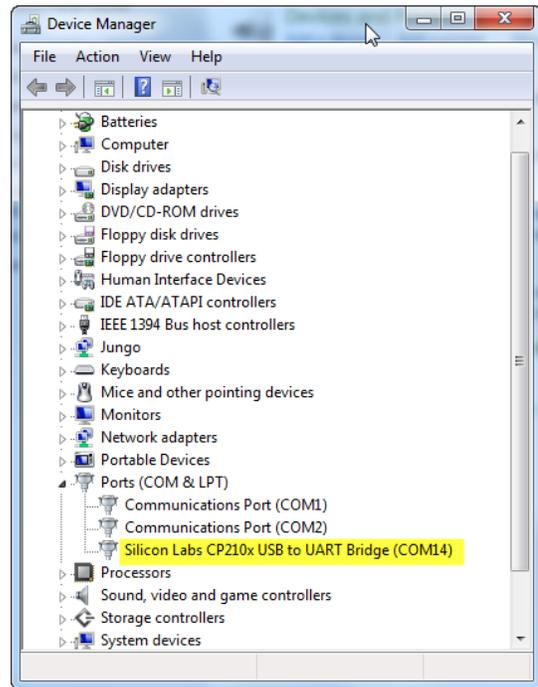

Figure 91 -- Device Manager showing COM Port for A-910 Dongle
5. Locate **SILICON LABS CP210x USB to UART Bridge (COM x)** (see Figure 91).